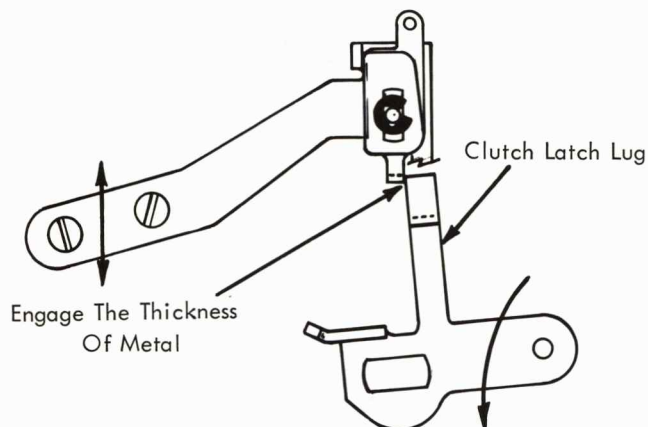

FIGURE 150.6 Margin Rack Latch Bellcrank Bracket
- b. Hand cycle a carrier return operation. With the clutch latch moving through its arc, the lug on the clutch latch should engage the lug on the latch bellcrank by the thickness of the metal of the latch bellcrank lug (Fig. 150.6).